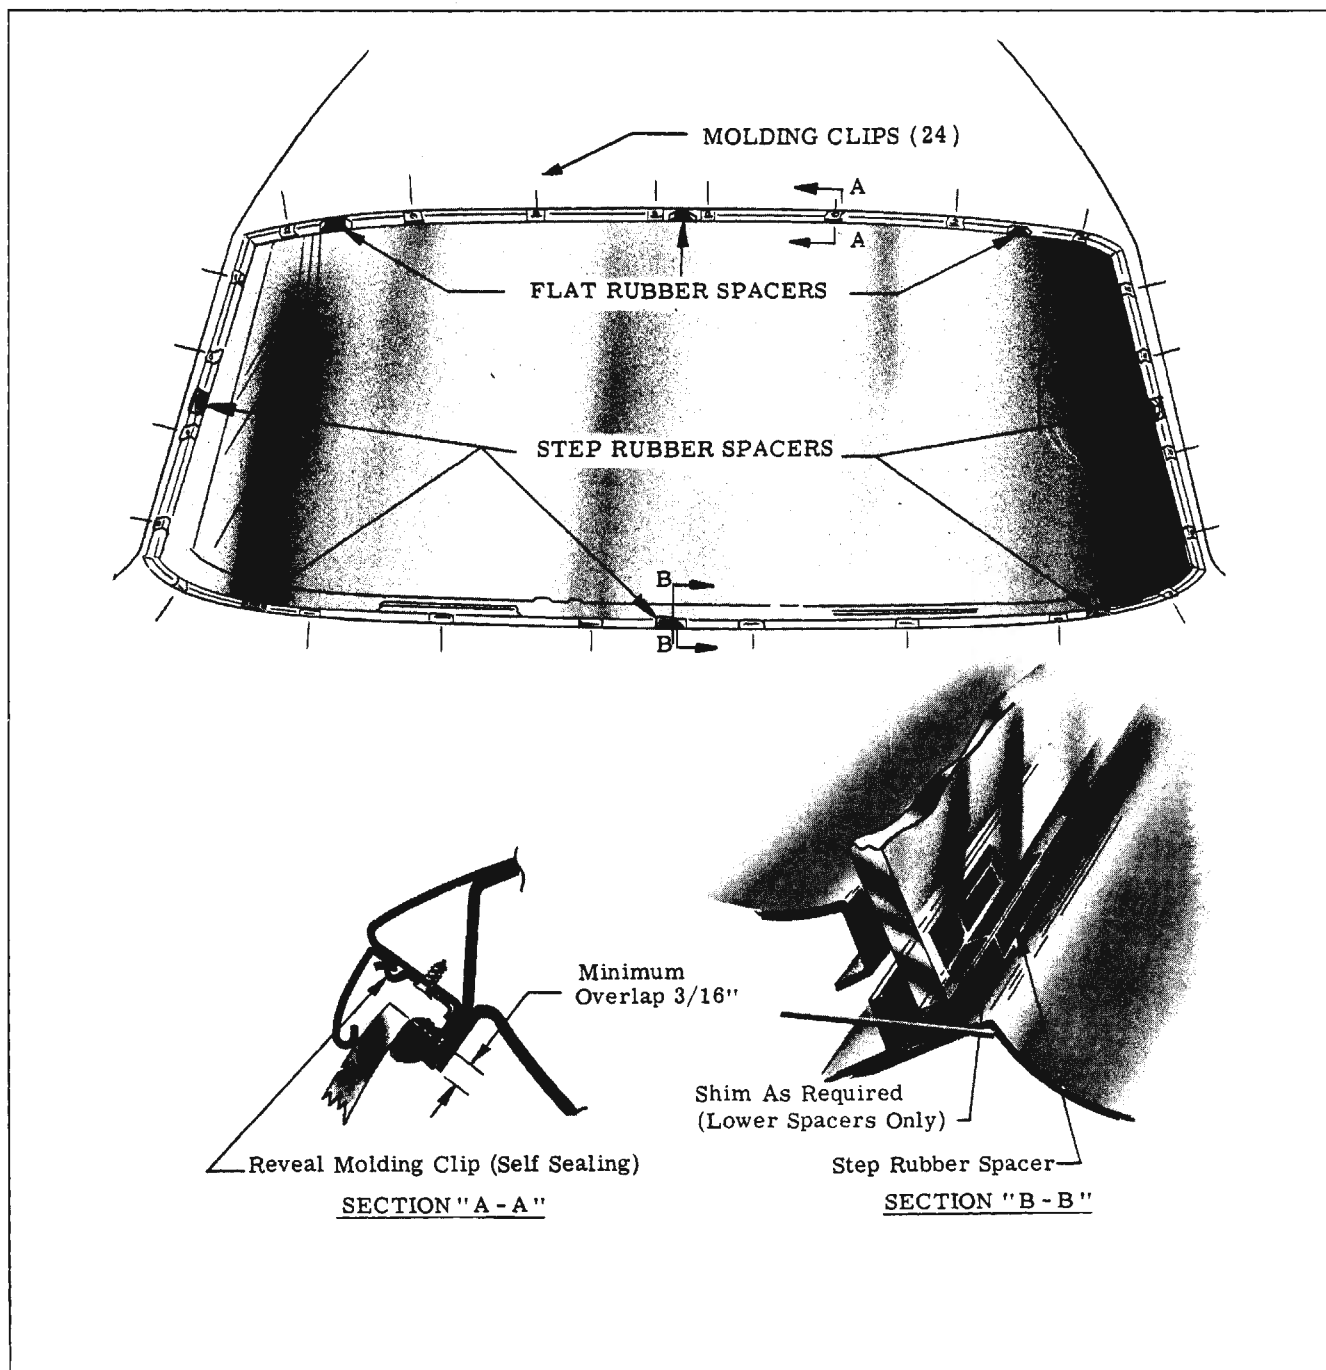

Fig. 16-218 Windshield Spacer and Reveal Molding Clip Locations (Extended Method)
5. Position replacement windshield glass in body opening. Carefully check relationship of glass to body pinchweld completely around opening. The overlap of glass to body pinchweld and retaining flanges should be equal with a minimum overlap of 3/16". (See Fig. 16-218) Where necessary, position water-proof shims under the lower spacers or trim spacers to obtain the required overlap of glass to body upper and lower flanges. Remove glass from body opening and place on protected surface or glass-holding fixture.
3. Using weatherstrip adhesive (neoprene-type), cement eight (8) rubber spacers at bottom, sides and top of body opening at locations indicated in Fig. 16-218. The three flat-type spacers are used along the top of the opening. The five step-type spacers are used at the windshield pillars and along the bottom of the opening. Use a 1/16" thick water-proof shim under each of the three lower spacers.